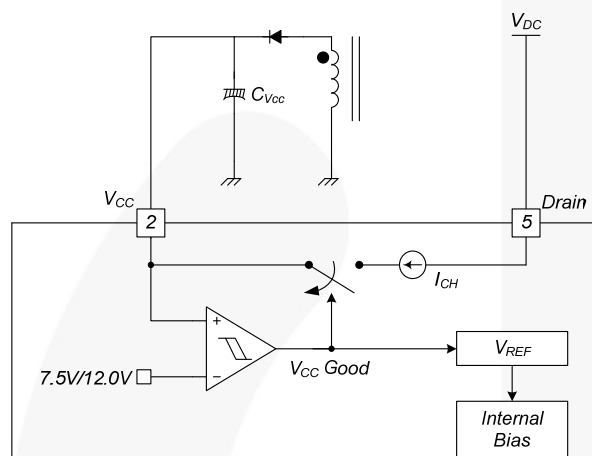

Figure 17. Startup Block
**1. Startup:** At startup, an internal high-voltage current source supplies the internal bias and charges the external capacitor ( $C_{VCC}$ ) connected to the  $V_{CC}$  pin, as illustrated in Figure 17. When  $V_{CC}$  reaches 12V, the FSL146MRBN begins switching and the internal high-voltage current source is disabled. The FSL146MRBN continues normal switching operation and the power is supplied from the auxiliary transformer winding unless  $V_{CC}$  goes below the stop voltage of 7.5V.